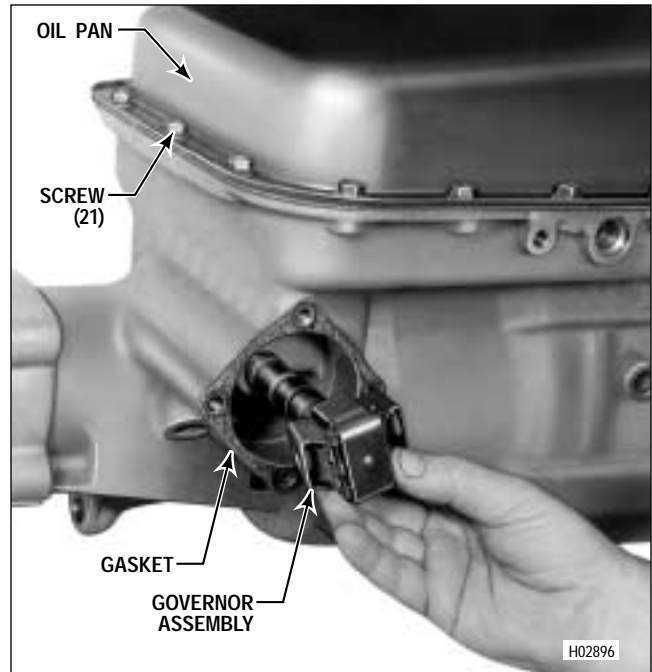

Figure 5-5. Removing Governor Assembly
(2) Remove the governor assembly (Figure 5-5), rotating it clockwise to disengage the drive gears. Refer to Paragraph 6-5 for governor assembly inspection and rebuild.
(3) Remove the governor cover gasket.